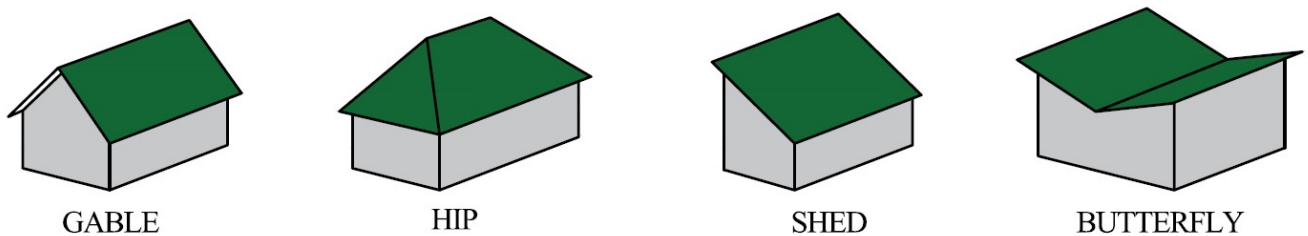

Fig.3.6.1. Roof types. (Source: own elaboration).
1. **Gable Roof** (Fig. 3.6.1): A gable roof is a triangular shape that is formed by two sloping planes that meet at a ridge. This roof shape is popular in passive solar buildings because it allows for maximum solar gain during the winter.
2. **Shed Roof** (Fig. 3.6.1): A shed roof is a single sloping plane that is often used to cover an addition to a building. It is a simple and cost-effective way to add a passive solar feature to a building.
3. **Hip Roof** (Fig. 3.6.1): A hip roof has four sloping planes that meet at a ridge. The hip roof is a good option for passive solar buildings because it allows for maximum solar gain during the winter and provides shading during the summer.
4. **Butterfly Roof** (Fig. 3.6.1): A butterfly roof is a V-shaped roof that has two sloping planes that meet at a central point. This roof shape is popular in passive solar buildings because it allows for maximum solar gain during the winter and provides shading during the summer.